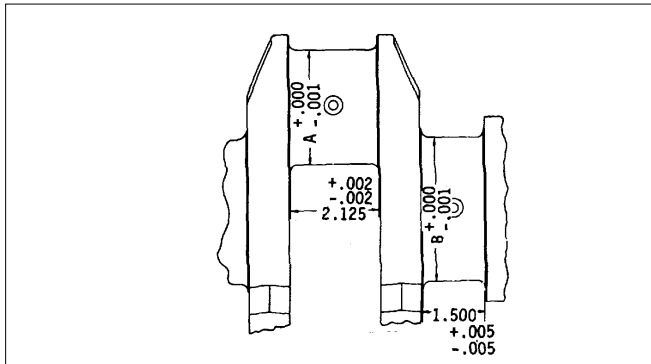
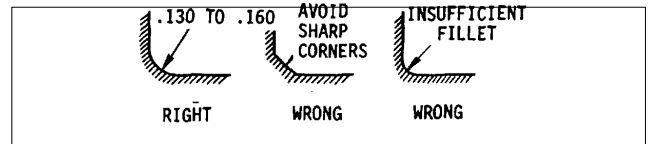

Fig. 6. Dimensions of Crankshaft Journals
Fig. 7. Crankshaft Journal Fillets
Measure all of the main and connecting rod bearing journals (Fig. 6). Measure the journals at several places on the circumference so that taper, out-of-round and bearing clearances can be determined. If the crankshaft is worn so that the maximum journal-to-bearing shell clearance (with new shells) exceeds .0044", the crankshaft must be reground. Measurements of the crankshaft should be accurate to the nearest .0002". Also, if the journal taper of a used crankshaft exceeds .0015" or the out-of round is greater than .001", the crankshaft must be reground.
- (1) Compare the crankshaft journal measurements taken during inspection with the dimensions in Table 2 and Fig. 6 and determine the size to which the journals are to be reground.
- (2) If one or more main or connecting rod journals require grinding, then grind all of the main journals or all of the connecting rod journals to the same required size.
- (3) All journal fillets must have a .130" to .160" radius between the crank cheek and the journal and must not have any sharp grind marks (Fig. 7). The fillet must blend smoothly into the journal and the crank cheek and must be free of scratches. The radius may be checked with a fillet gage.
- (4) Care must be taken to avoid localized heating which often produces grinding cracks. Cool the crankshaft while grinding, using coolant generously. Do not crowd the grinding wheel into the work.